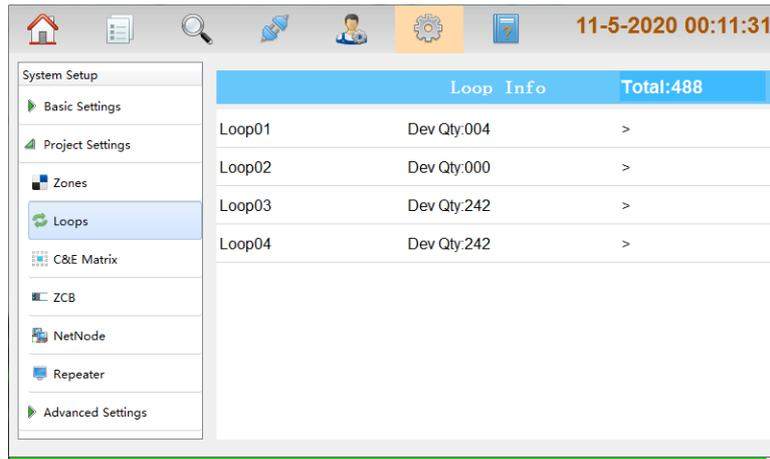

Fig. 4.16
- **Loops:** clicking **Loops** enters the screen for setting loop devices. The right screen shows all the loops of the FACP, quantity of devices of each loop, as shown in the figure below Fig. 4.16.